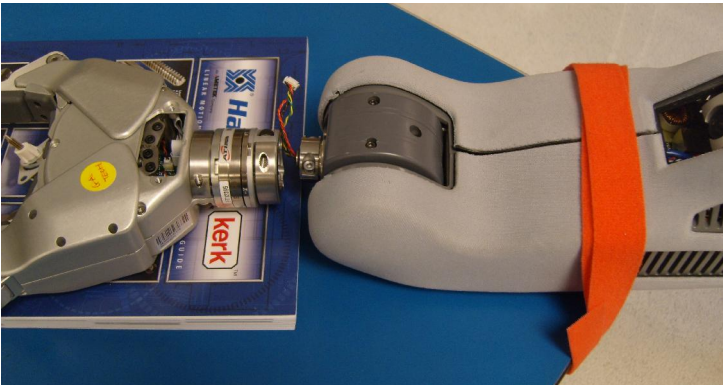

Fig. 1
2. Position the PR2 at a corner of a table with an overhang and strap the forearm down with the camera facing up so the arm is not free to move (Fig. 1)